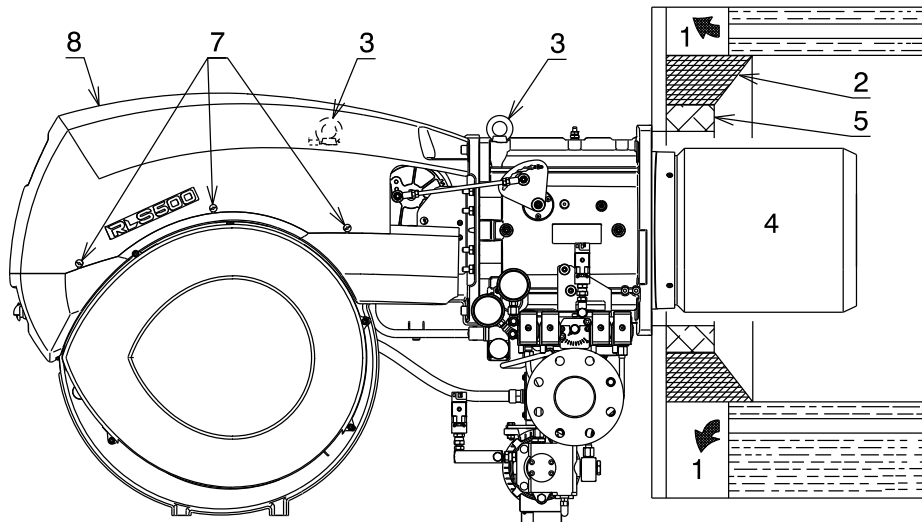

Fig. 12
For boilers with front flue passes 1)(Fig. 12) or flame inversion chambers, protective fettling in refractory material 5) must be inserted between the boiler fettling 2) and the blast tube 4).
For boilers having a water-cooled front the refractory fettling 2)-5)(Fig. 12) is not required unless it is expressly requested by the boiler manufacturer.
Prepare an adequate system of hoisting by hooking onto the rings (Fig. 12).
- Slip the thermal protection (standard equipment) onto the blast tube 4)(Fig. 12).